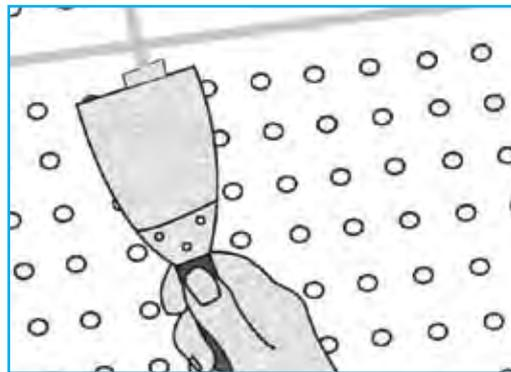

FIGURE 11 Finishing
- Use MastaLite for finishing joints and screw heads. *[Figure 11 and 13]*